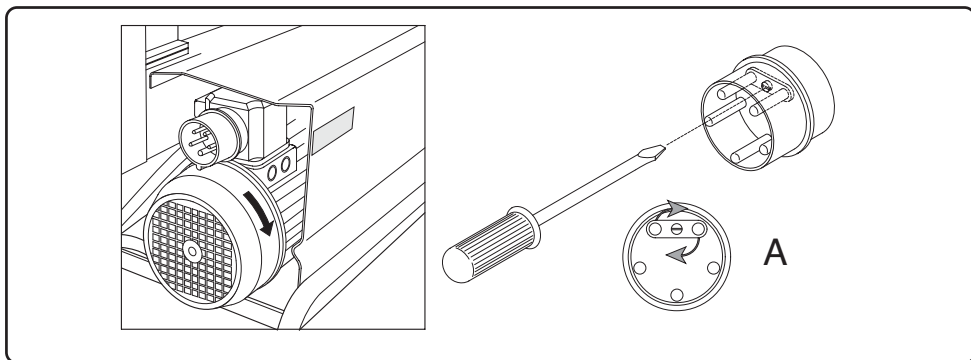

Fig. 3
2) Power the motor for one or two seconds, by means of the green push-button on top of the motor, so as to see the direction of rotation. If the motor turns in the opposite direction to the arrow on the motor casing, unplug it from the socket and swap over two of the socket pins by means of a screw, as shown in A Fig. 3.